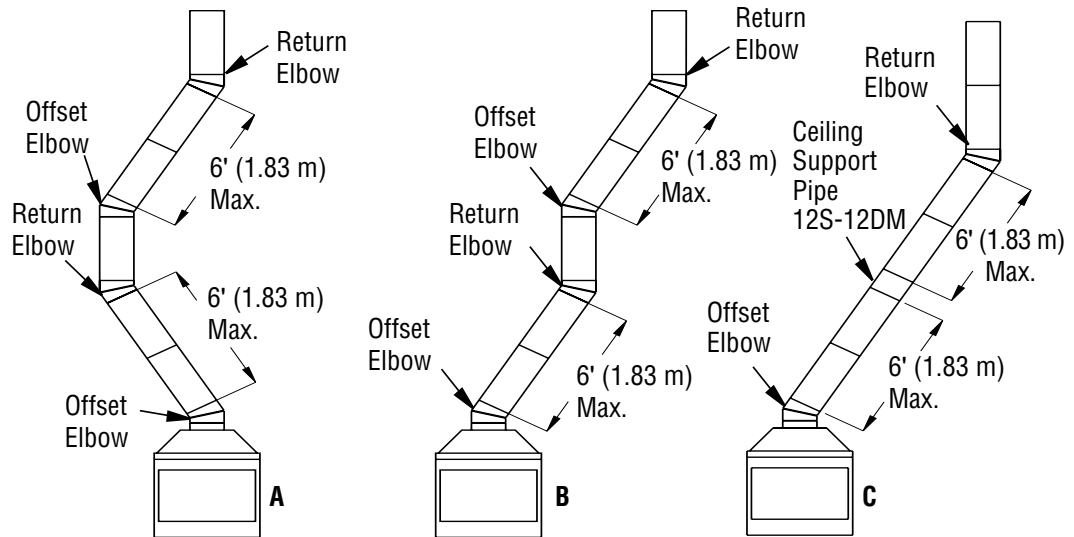

Figure 8 - Typical Offset Terminations
- To achieve desired offset, you may install combinations of 12", 18", 24", 36" and 48" length of double wall pipe (see offset chart, this page and Figure 8, page 8).
- Maximum length of pipe between supports (return elbow or 12S-12DM) is 6' of angle run. Maximum of two 6' angle run sections per chimney system (see Figure 8).